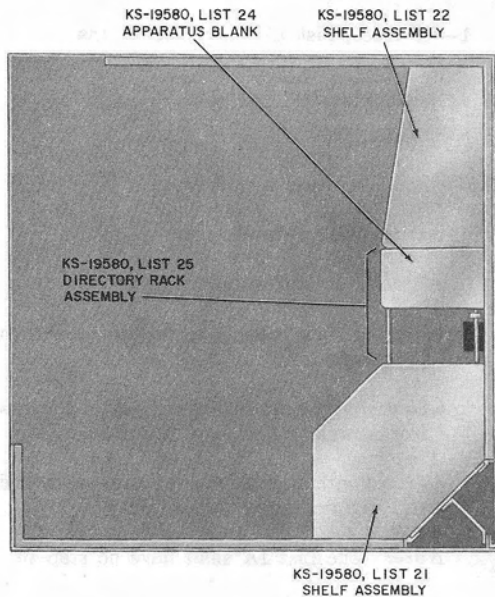

Fig. 9—Rear Wall Shelf Arrangement
2.18 Refer to Fig. 9 for optional shelf arrangements which can be used in the List 1 booth.